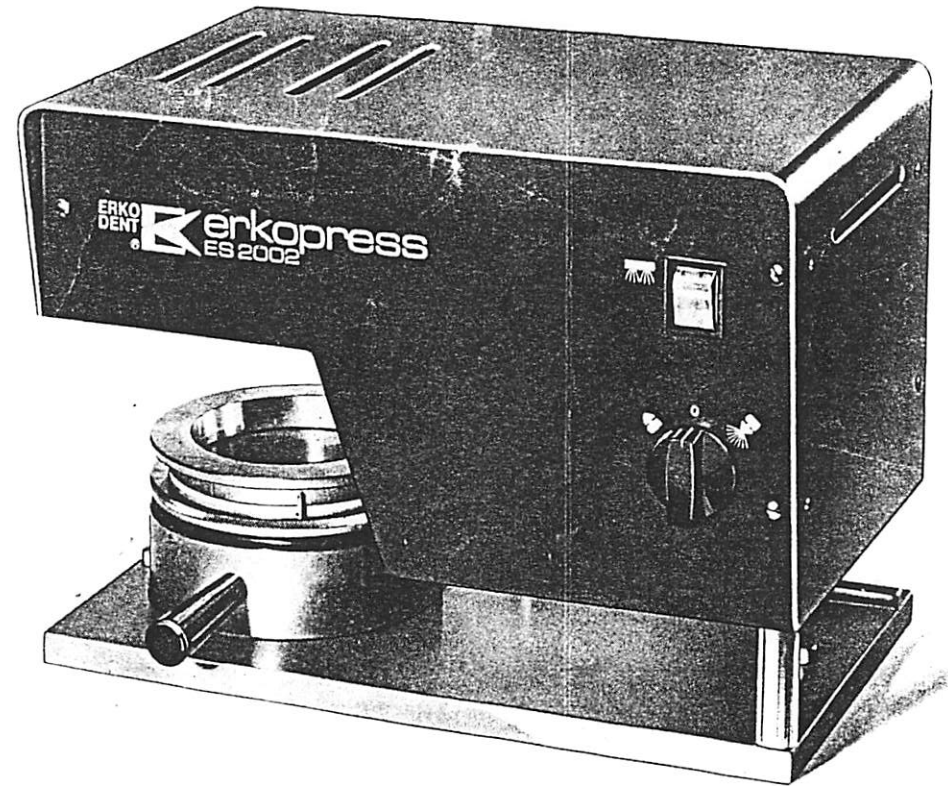

Fig. 12
- d) Bubbles on some discs means too much heat. On some discs it could be because of damp storage. In such cases use the accessory for drying the discs, ref.: 175.001 (Fig. 12).